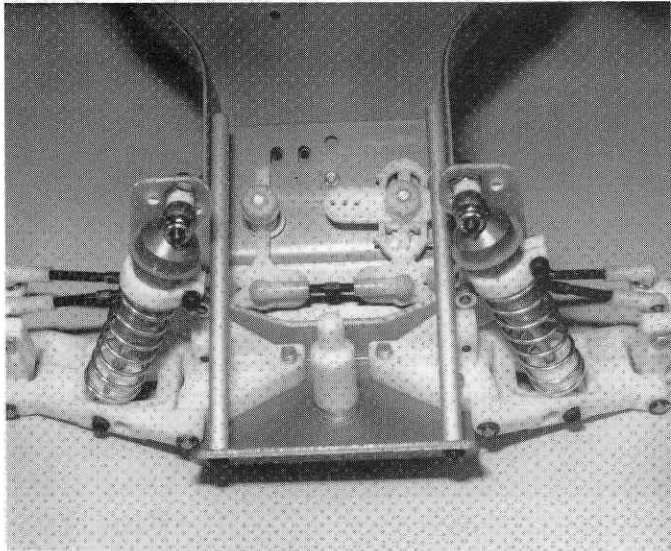

Fig. 111
□ **Fig. 111** These tubes tie in the nose piece very solidly to the chassis. Start by installing the rear screw through the side of the chassis, but do not tighten yet. Install the forward screw through the front of the nose piece into the end of the rod and tighten down. Now tighten the rear screw. Install the 2nd brace.